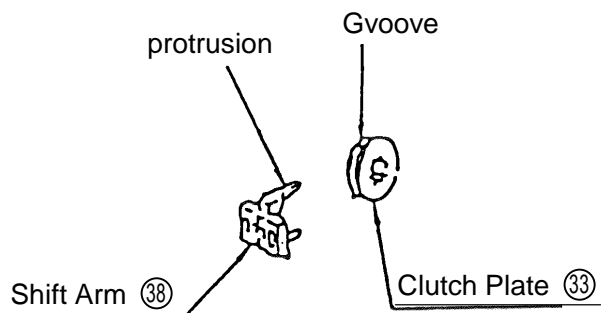

Fig. 19
- (i) Confirm that the claw portion of the Shift Arm ③⑧ is properly engaged with the matching groove on the Clutch Plate ③③. (Fig. 19)
(5) Other Precautions in Assembly: